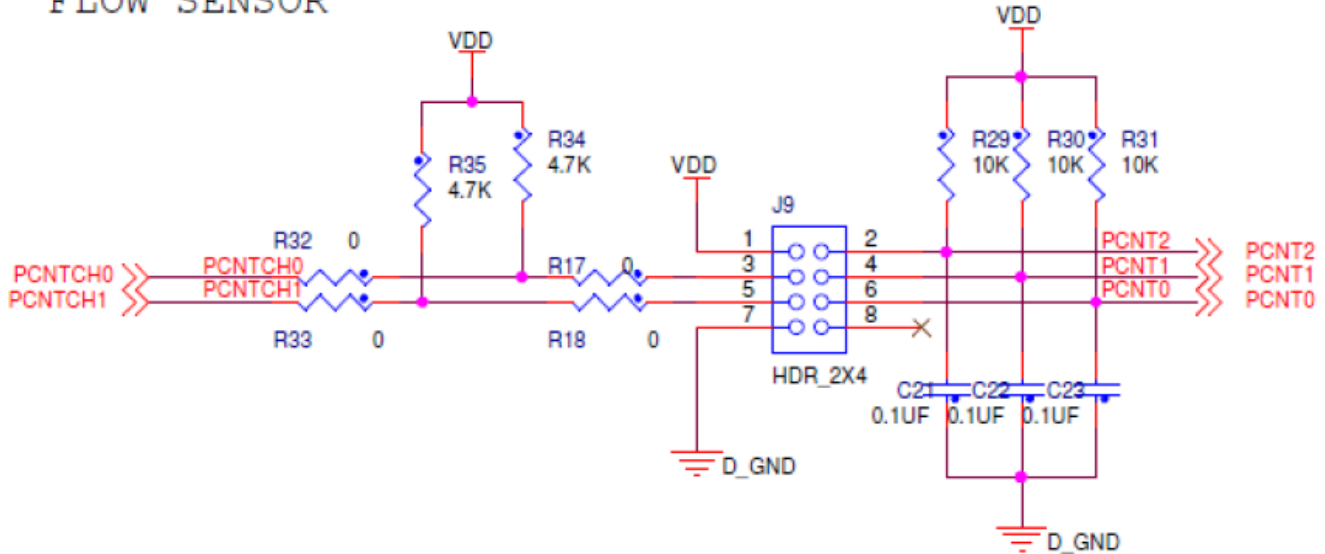

Figure 3-4. Flow sensor interface diagram
- The power supply and ground can be provided to the flow sensor using the pins 1 and 7 of the jumper J9 as shown in Figure 3-4.